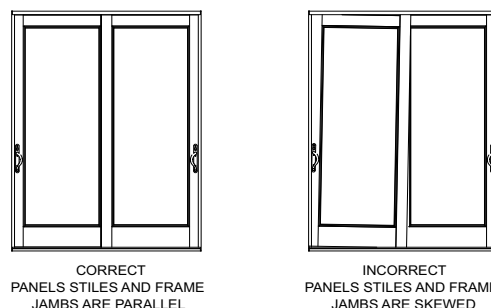

Figure 21
- 5) To raise panels, pick up the panel at the edge to relieve the weight pressure on the wheels and then adjust by turning adjustment screw clockwise. To lower panels turn adjustment screws counter clockwise then use weight pressure on the panel to set the wheels to the new adjustment level. (See Figure 21)